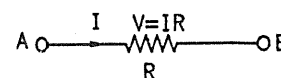

FIG. 1.64 : DETERMINATION OF SIGN FOR IR DROP
- To determine sign for the voltage drop in a resistance, consider a branch containing a resistor of resistance R in which current I flows from A to B as shown in Fig. 1.64